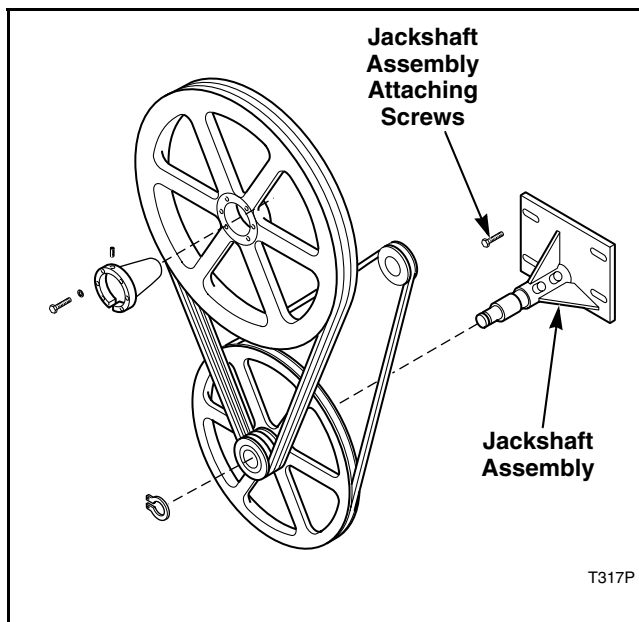

Figure 2
- Loosen the four jackshaft assembly attaching screws. Refer to *Figure 2*.